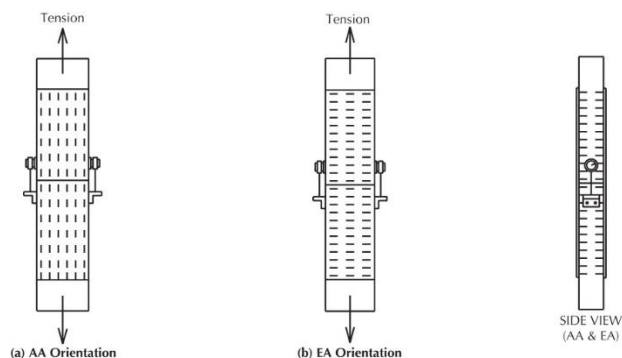

Figure 1. AA and EA Orientations (TPI 1 Figure 5.2-3)
- Wood truss members shall have a minimum specific gravity (SG) of that listed in this table.
- AA denotes that the plate's slots are parallel to load and the load is parallel to grain (see Figure 1, showing the wide face connection).
- EA denotes that the plate's slots are perpendicular to load and the load is parallel to grain (see Figure 1, showing the wide face connection).